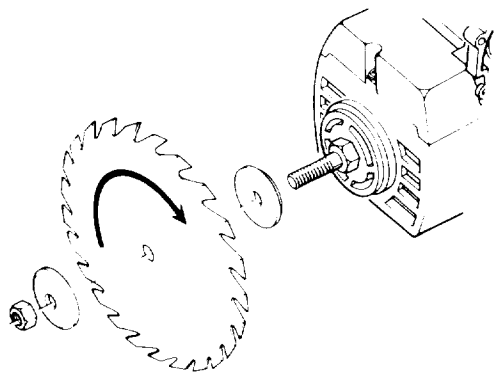

Fig. 58
2. Place the *blade* on the *arbor shaft* with a **blade collar** on each side. make sure that the directional arrow is on the outside of the *blade*, and the teeth are pointing down at the front side of the blade. (Figure 58)